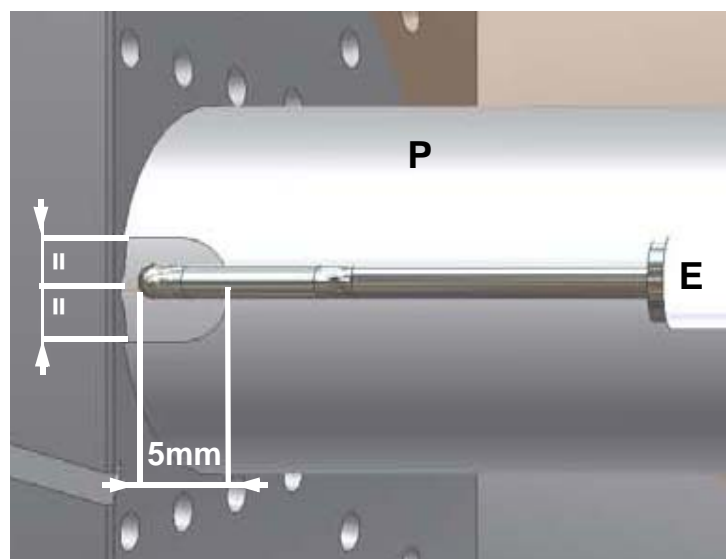

Fig. 32
- 2 disconnect the electrode (E) cable (CE);
- 4 loose screw (B) that fasten the ignition electrode (E) to the burner pilot (P);
- 5 remove the electrode and replace it, referring to the values quoted on Fig. 32;